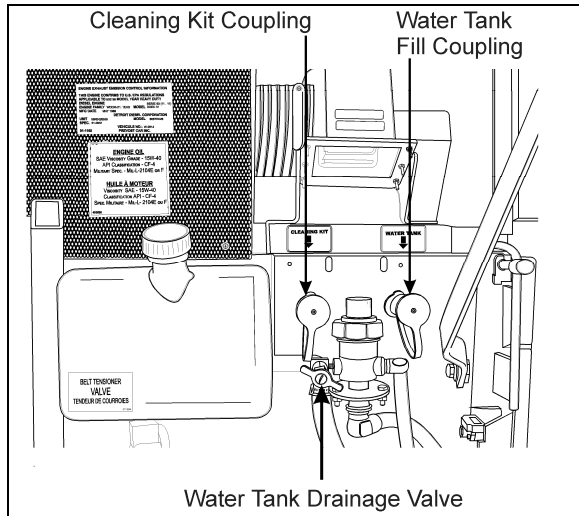

FIGURE 26: FRESH WATER TANK SERVICE VALVES
2. Insert projection at end of "BOBRICK" key into rectangular hole in cover (Fig. 26). Push straight in. While holding "BOBRICK" key in, turn cover counterclockwise about 1/8 turn.